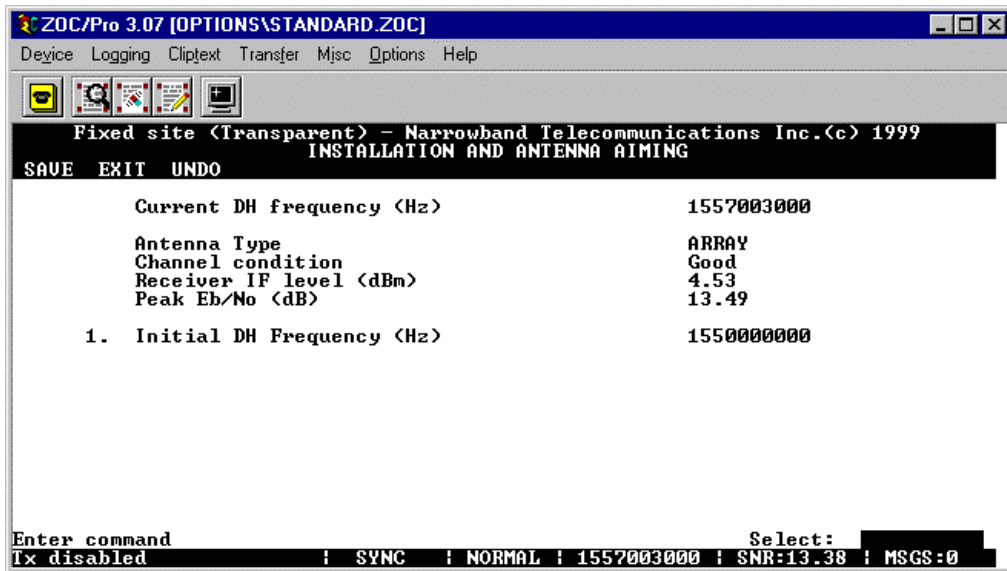

Figure 6. Installation and Antenna Aiming window
8. From the *Main Menu*, select option “1” *Installation and Antenna Aiming* by typing “1” in the *Select* field. Press the **Enter** key. The *Installation and Antenna Aiming* window is displayed (see figure 6).